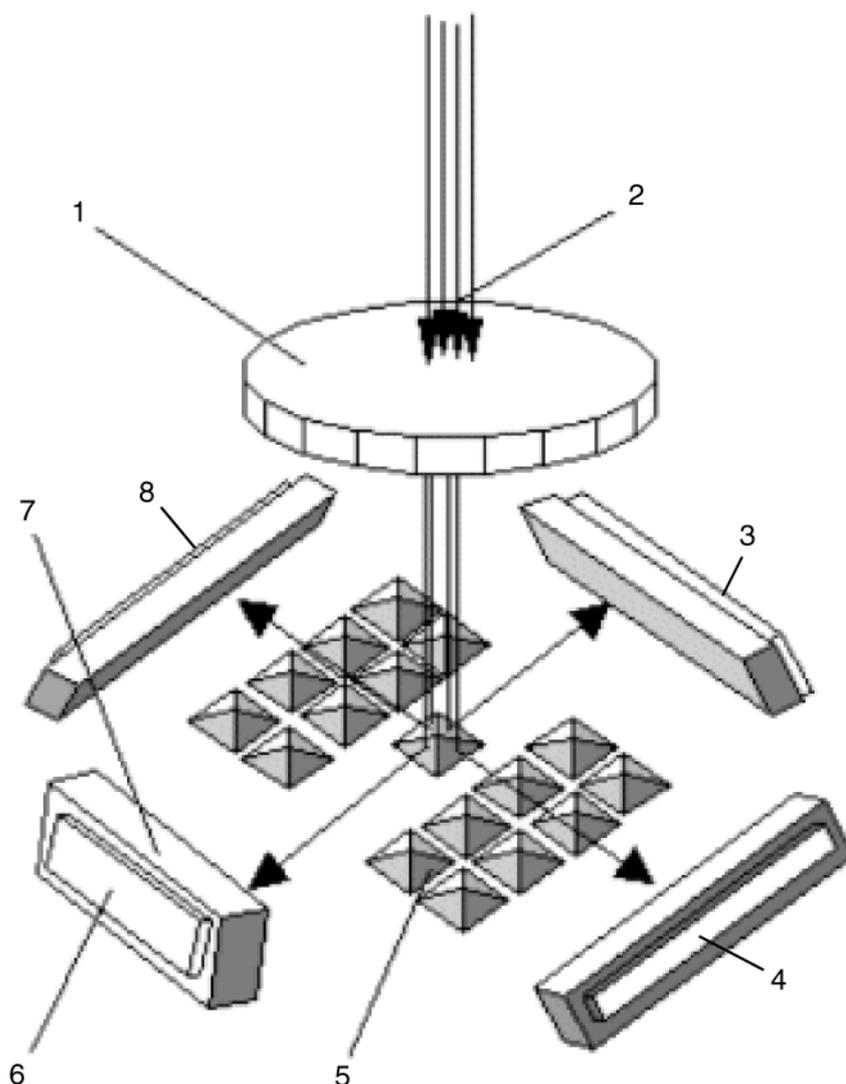

Figure 31 Principle of multi-channel detector with IR filters
The measurement principle of the ILCA module is based on the absorption of infrared light by the various media (Figure 31). The sensor head comprises an emitter which emits a broad spectrum of infrared light (2). The light beam passes through a cuvette (1), through which the gas being measured is also drawn by means of a pump.
Table 4 Legend to **Figure 31**